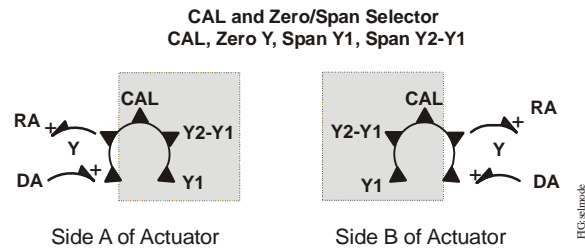

Figure 13: CAL Operation Setup (highlighted)
1. With power off, move the mode selection switch to the CAL position (Figure 13). Then, energize the actuator. The actuator automatically rotates until the end-stops are found and proportionally reconfigures the control input range to the reduced rotation range.
The command voltage value for a minimum hub angle (the zero setting) and the change in command value required to travel the total hub angle (the span) are adjustable (Figure 13). These settings are with respect to the minimum hub angle and the total travel distance defined during the CAL function. If the actuator is powered on, the Span voltage can be set right after the Zero voltage is set without first powering down the actuator.
1. With power off, set the mode selector switch (Figure 13) to the zero (Y1) position.